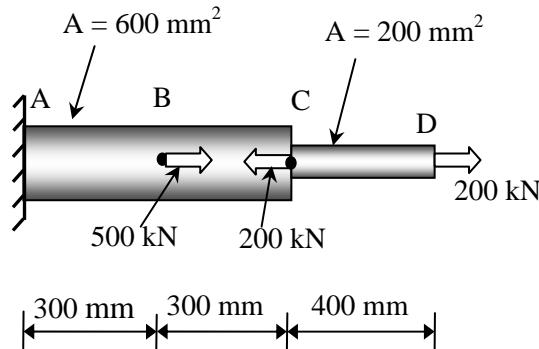

Fig. 1
1. Determine the deflection of the free end of the steel rod shown in Fig. 1 under the given load ( $E = 200 \text{ GPa}$ ).